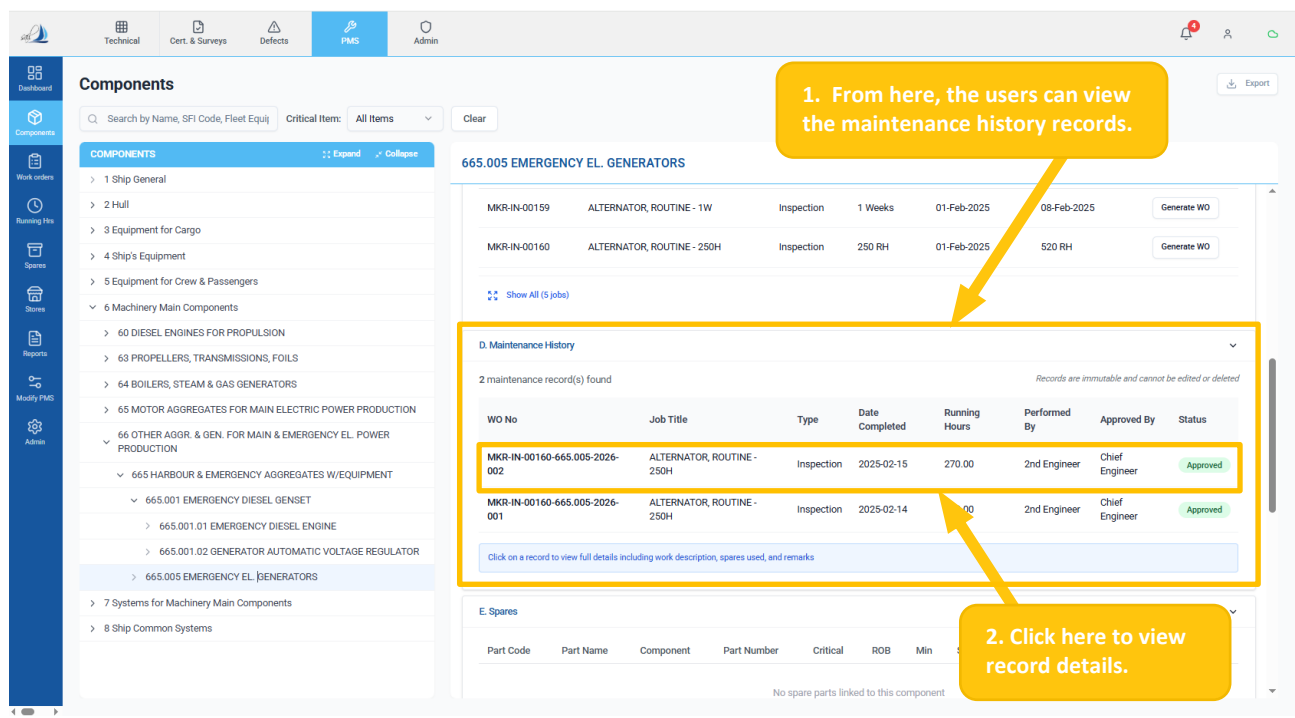

Figure 20
- In the Part D section, the users can view the maintenance history records of the selected component. (Ref Figure 20)
- Click anywhere on a record from the list to view its detailed information. (Ref Figure 20)